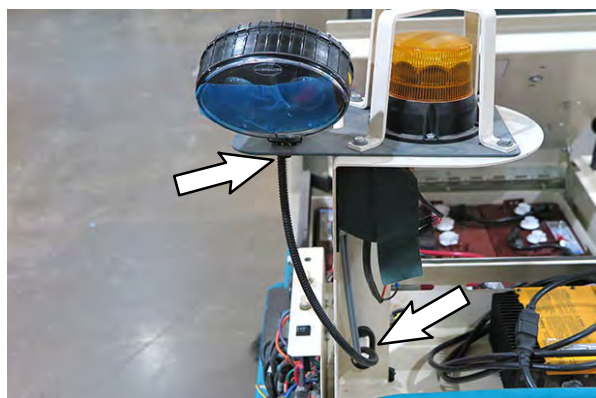

FIG. 16
29. Route the 24 in. blue spotlight harness (16) down around the rear of the pedestal (12) and through the routing hole in the pedestal. (Fig. 16)